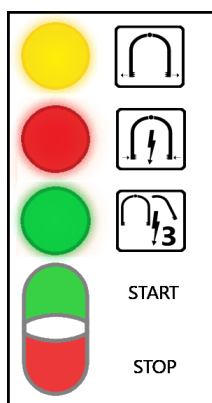

Fig. 2 Signal lights
Before inserting, removing and when transporting (in the trolley) tongs connected to the **VBE-M** stunning unit (1), turn off the **VBE-M** unit (1) using the STOP on the START/STOP main switch (see *Fig. 2*).